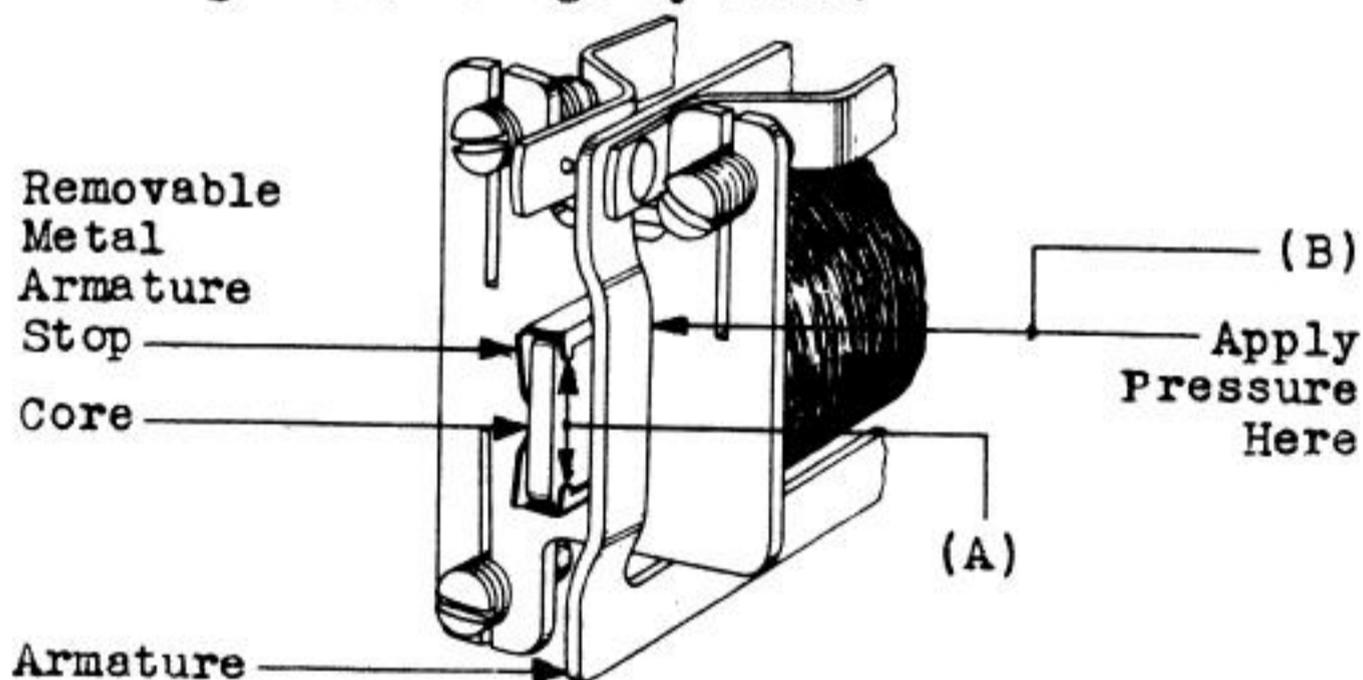

Fig. 104 - Removable Metal Armature Stop Position
\*2.06 Tightness of Adjusting Screws - Fig. 104:
2.07 Removable Metal Armature Stop Position - Fig. 104 (A): The flanges on each side of the removable metal armature stop facing the armature shall be flat against the pole face. The armature stop pin shall not strike the removable metal armature stop as the relay operates. Gauge by eye.